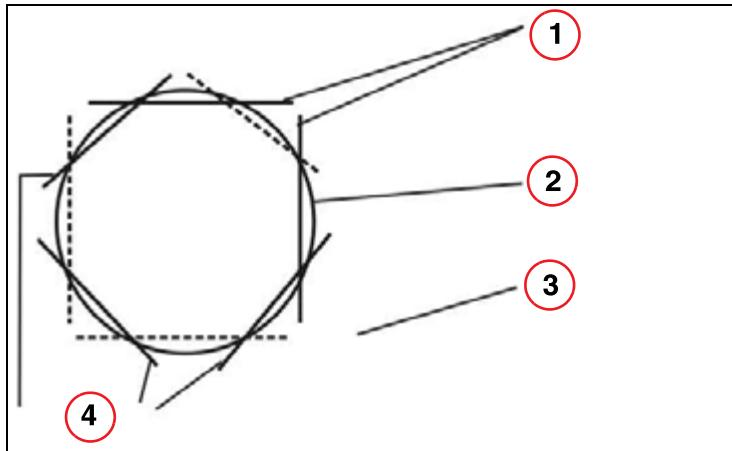

Fig. 14: FL limitation
- Evaluate the appearance of the collimator / iris plates on the monitor for all zoom formats (Fig. 14 / p. 34).